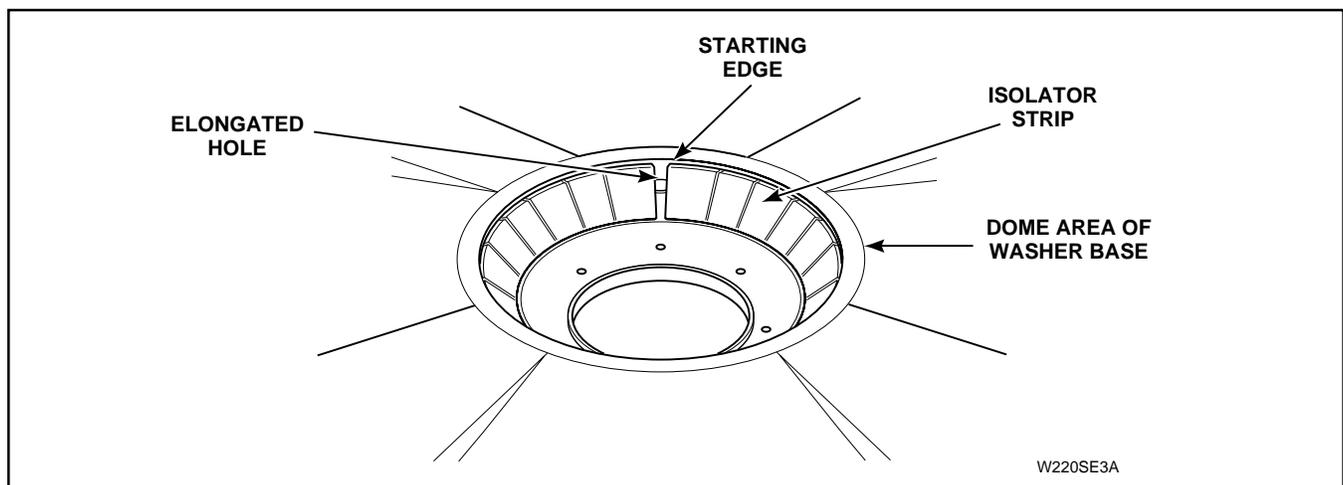

Figure 47
- Locate split end of snubber pad and isolator assembly strip and using a flat blade screwdriver, carefully unsnap snubber pad and isolator assembly from pivot dome area of washer base, *Figure 47*.